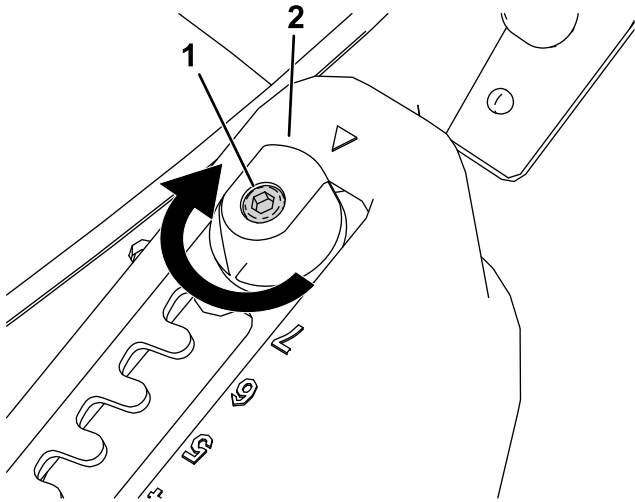
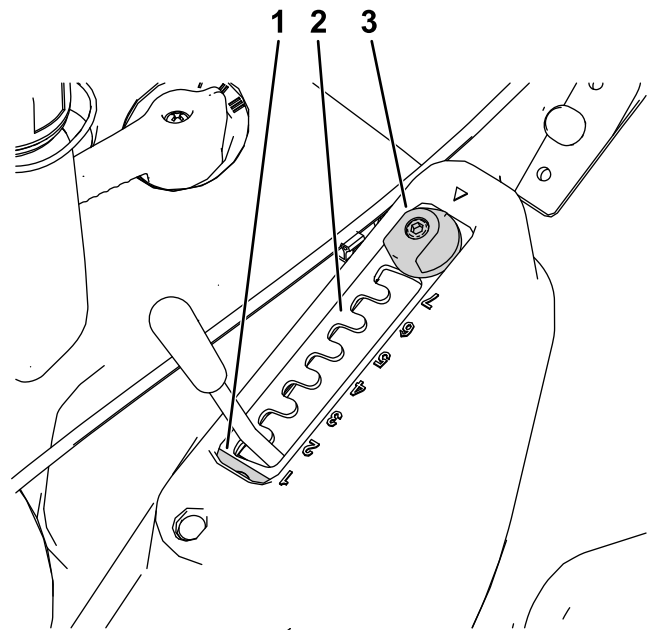

Figure 13
Figure 14
1. Loosen the selector plate retaining bolt with an Allen wrench (Figure 13).
2. Turn the matchcut adjuster 180° (Figure 13 and Figure 14).